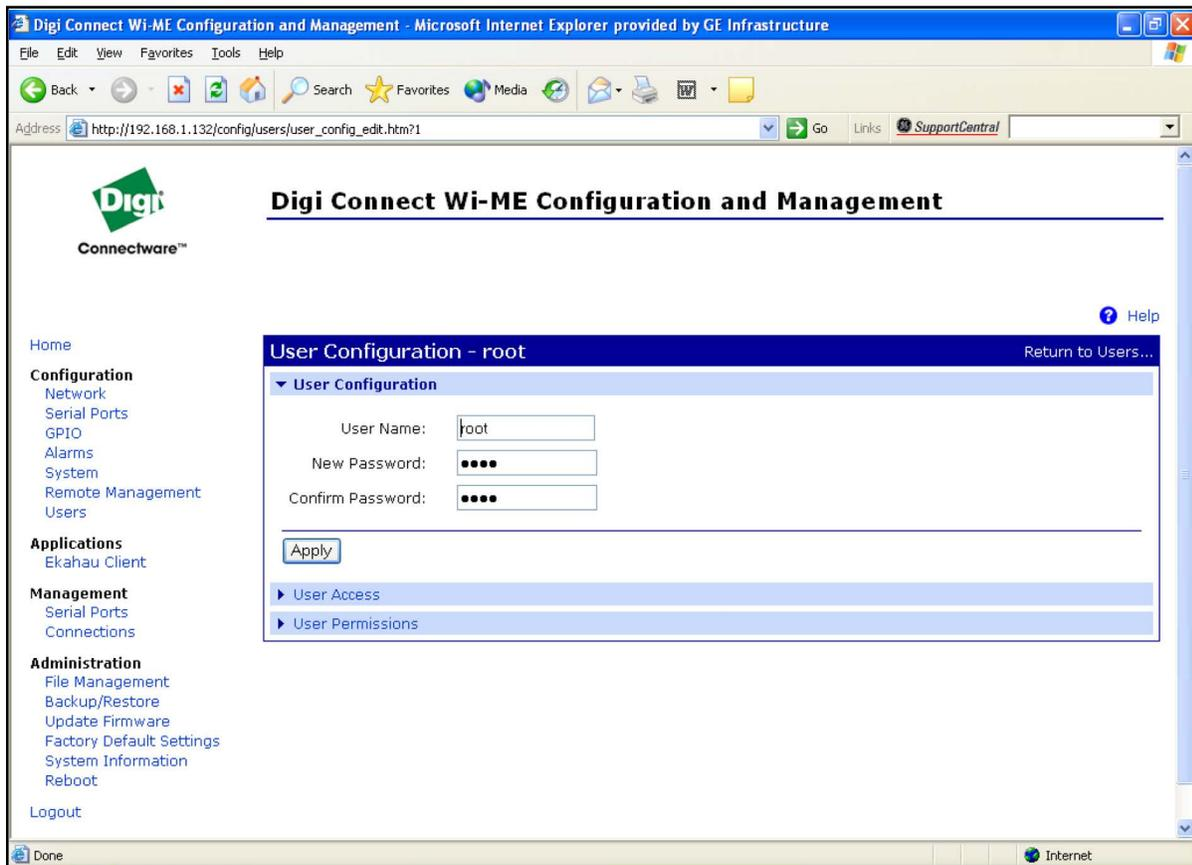

Figure 35: Changing the User Name and/or Password
5. Click on **New...** Figure 35 on page 64 appears.